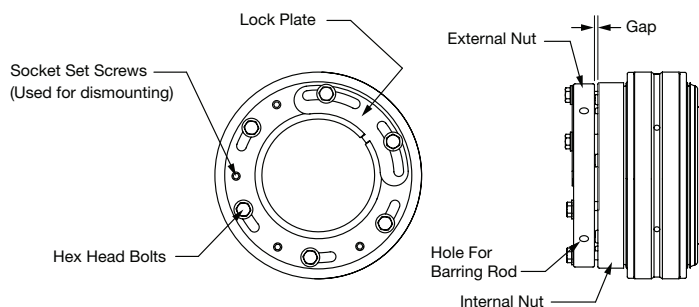
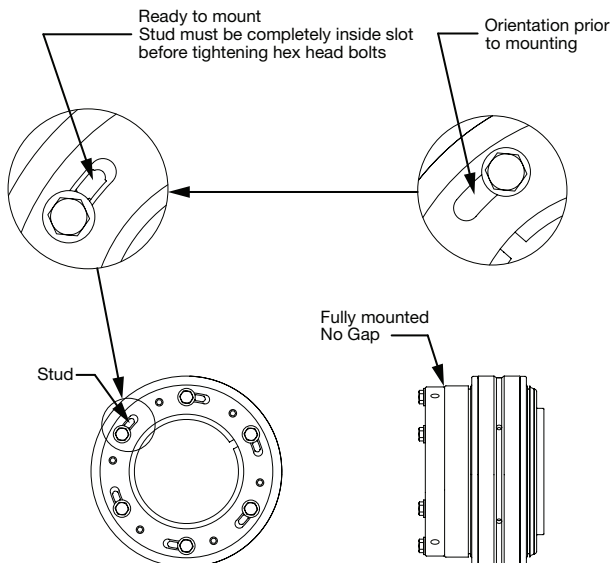
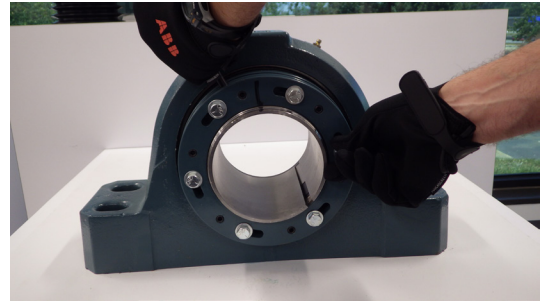
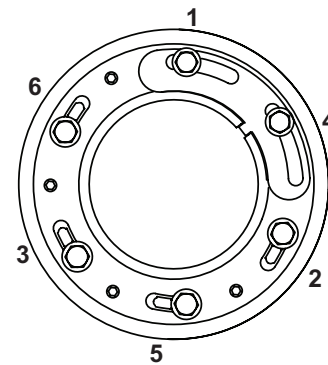

Figure 1. Bearing with dual nut as shipped with gap.
Figure 3 - Nut rotated and ready for installation
Figure 4 – Holding external nut and rotating internal nut using hex head bolt
Figure 5 - Correct installation star pattern
The locknut assembly is comprised of an external nut and internal nut. The bearing is shipped such that there is a gap between the two nuts. The two nuts must maintain this gap prior to mounting the bearing. The dual nut configuration prior to installation is shown in Figure 1. Note the position of the external nut slots relative to the hex cap bolts.
- Loosen but do not remove the hex head bolts. Use 3/8" rod to hold external nut in position when loosening the hex head bolts. While holding the external nut with a 3/8" rod, grasp one of the hex head bolts, and rotate the internal nut counter clockwise to shoulder the hex head bolts as shown in Figure 3. See Figure 4 demonstrating this step. If the external nut moves during this step, it is imperative to reposition the nut assembly so that the external nut is positioned with the alignment mark made in step 4 before proceeding to the next step. Make sure the spacing stud is visible in the slot as shown in Figure 3, or the nut will not install correctly.
- At this point the machined studs used to create the gap have been positioned inside the elongated slots, and the two nuts can be pulled together, which installs the bearing on the shaft. If the external nut moves during this step, it is imperative to reposition the nut assembly so that the external nut is positioned with the alignment mark made in Step 4 before proceeding to the next step. Gradually tighten the hex head bolts in a star pattern, as shown in Figure 5, until the external nut firmly seats against the internal nut and the gap is completely closed as shown in Figure 3 (Not yet full torque).
- Remove two hex head bolts nearest to the slot in the adapter. A slight gap may appear between the two nuts when these two hex head bolts are removed. This is a normal occurrence and the gap will close up when the two hex head bolts are reinstalled. Install the lock plate so that the tab fits into the adapter slot. If the lock plate does not line up with the two holes, it can be flipped over to fit as shown in Figure 1. Reinstall the two hex head bolts to secure the lock plate. Using a star pattern, as shown in Figure 5, torque the hex head bolts to the values shown in Table 1. It is considered a best practice to initially tighten the hex head bolts to 50% of full torque, then tighten again to 100% full torque (using the star pattern both times).